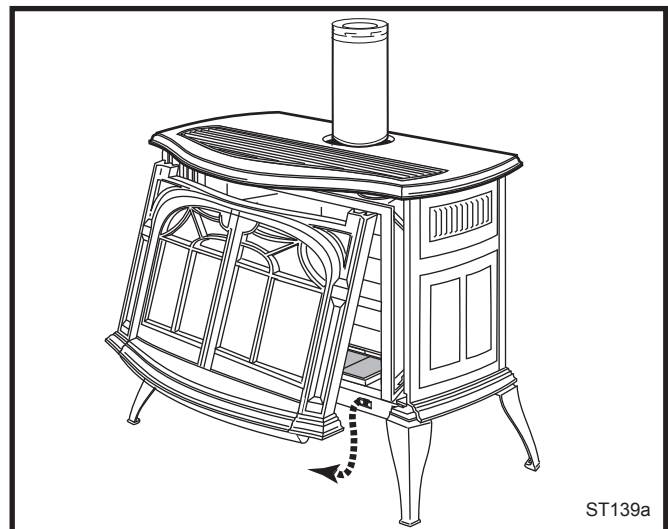

Fig. 76 Remove the Stove Front.
2. Lift the Stove Front up and then swing the bottom out to disengage it from the heater shell. (Fig. 76)
1. Remove the Front, Glass Frame and Glass Panel. (Figs. 76 & 77) Remove the old gasket. Use a razor blade to separate the glass and gasket from the frame, and to clean the glass of any remaining cement or bits of gasket. Use a cold chisel if necessary.